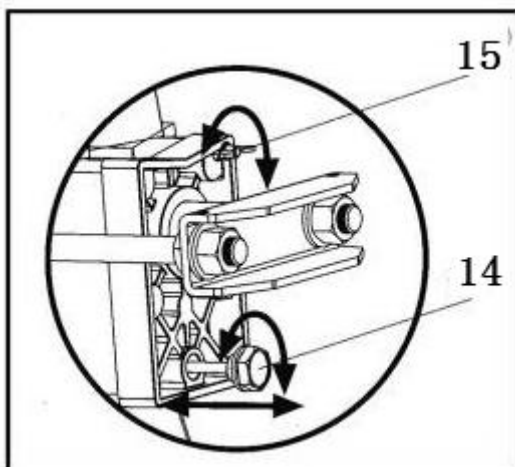

Fig.7
Before operating the log splitter, the Bleed Screw (15) Fig. 7, should be loosened by some rotations until air can go in and out of the oil tank smoothly.
2. Unscrew oil drain bolt (14) (fig.7) with dipstick to remove it.